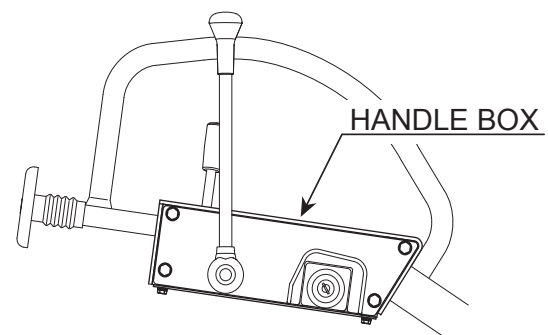

Figure 17. Location of Fuse (Handle Box)
2. If vibration does not occur (electromagnetic clutch does not operate) while other functions are working properly, the fuse might be blown. Check the fuse (10A) in the handle box (Figure 17) and if it is blown, replace with a new one.